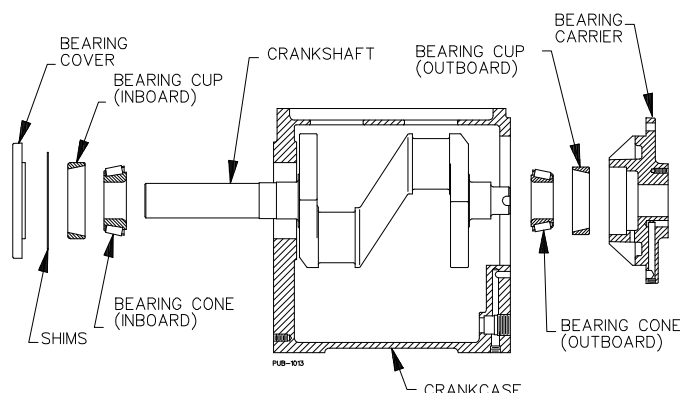

Fig. 14 - Bearing Locations
- b. Referring to Fig. 14 for the proper orientation, carefully press the inboard bearing cup into the crankcase until it is flush with the outer surface of the crankcase.